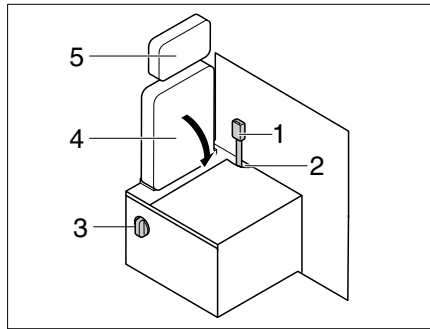

Fig. 218 Driving - living conversion
- Remove the headrest (Fig. 218,5) (see chapter 5.7).
- Insert the seat belt buckle (Fig. 218,1) into the opening (Fig. 218,2).
- Engage the lever (Fig. 218,3) and fold down the backrest (Fig. 218,4).
▷ Repeat the process in reverse order to convert the space back from the living to driving setup. Make sure that the seat belt buckle is inserted through the opening (Fig. 218,2).